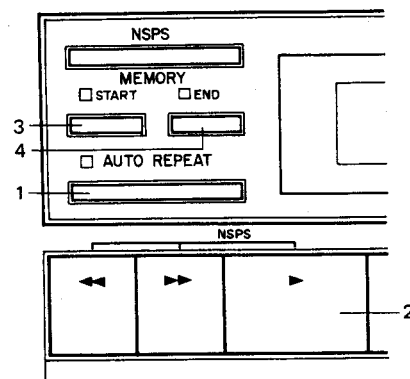

Fig. 12 Memory Repeat Procedure
B. Intermittent Repeat (Fig. 12)